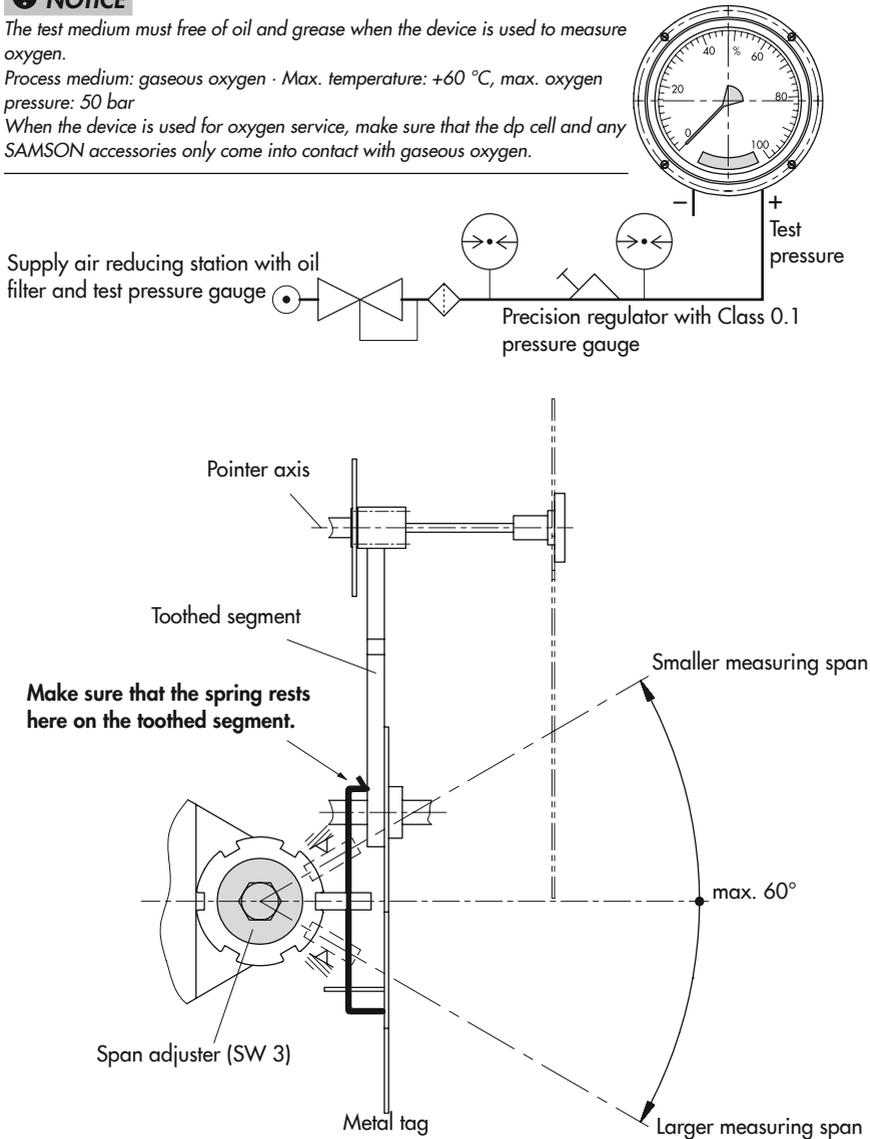

Fig. 7: Test arrangement and modifying the measuring range
For best results, adjust it on the test bench (Fig. 7, top).
*Be aware that the adjustment is performed on a moving part and, therefore, do not exert any force to it. Do not apply any pressure with the screwdriver in the axial direction. If the spring is mispositioned while adjusting the measuring range and is located on the tag instead of the toothed segment, the pointer goes beyond the 100 % scale range and not to 0 % when there is an input pressure of 0 mbar. In this case, reposition the spring as shown in Fig. 7.*